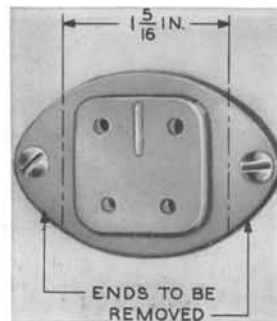

FIG. 21—MODIFICATION OF 493A JACK TO FIT INTO KS-16151, LIST 2 JACK
11.03 The 493A jack may be modified to fit into the KS-16151, List 2 outdoor jack, as shown in Fig. 21, and as follows:
1. Mark ends of jack as shown in Fig. 21.